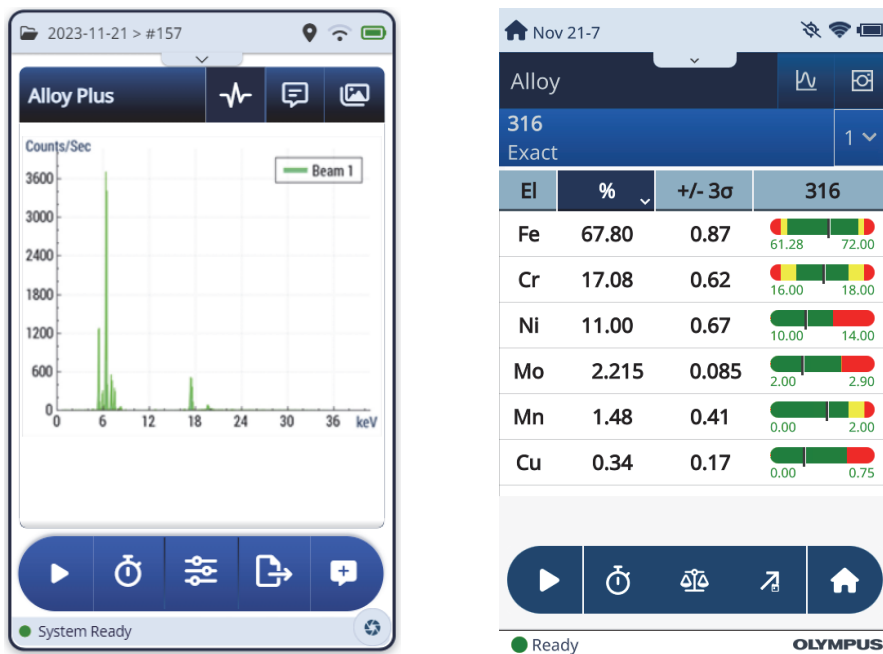

Figure 3-15 Test start and completed screens
1. Navigate to the **Test** screen (see Figure 3-15 on page 76).
4. When the test is complete, tap the Chemistry, Spectrum, Notes, or Image bar to expand that view (see Figure 3-15 on page 76).